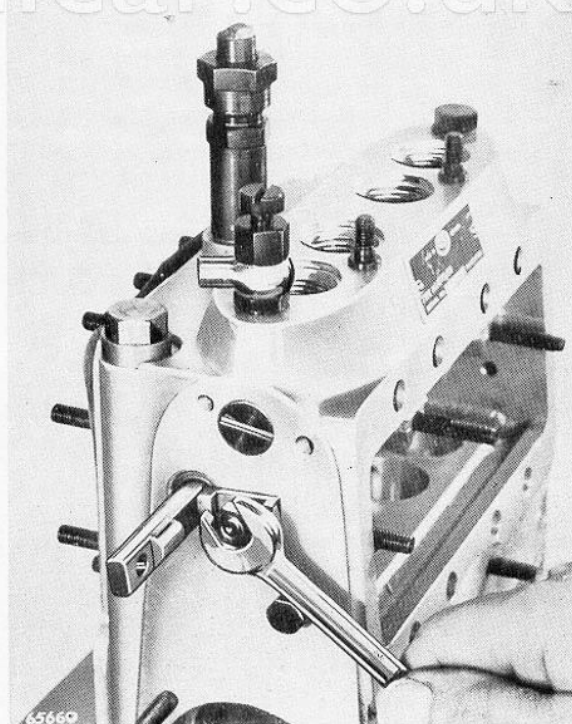

FIG. 11. REMOVING THE CONTROL ROD LOCATING PLATE—TYPICAL ILLUSTRATION
24. Remove the control rod locating plate, and slide the control rod from the pump housing (Fig. 11).